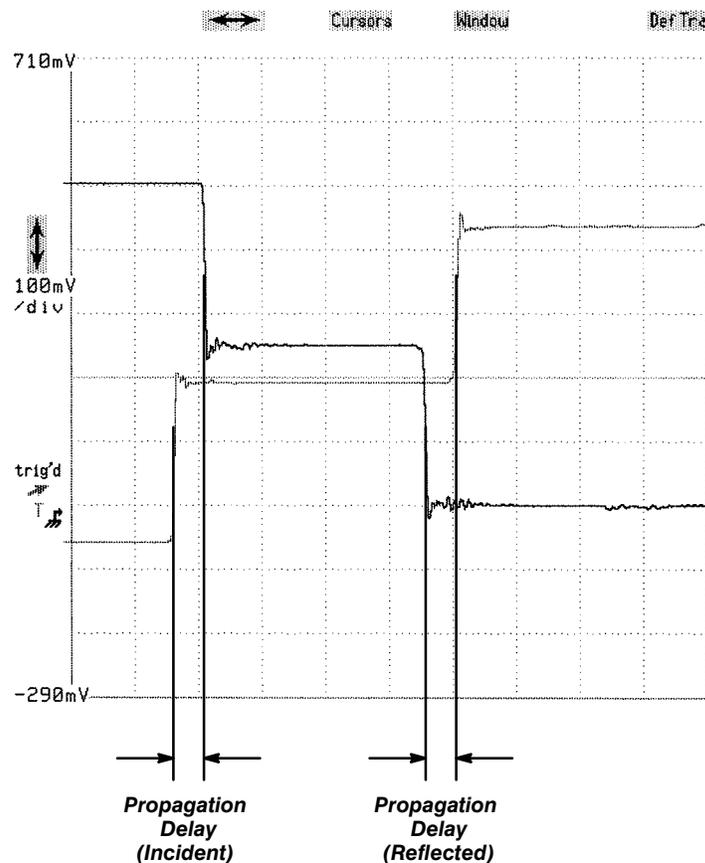

Figure 14: TDR Propagation Delay
- Step 6:** Touch **Diff TDR Preset** to turn both TDRs on, set **Trigger** to **Internal Clock**, and autoset the upper channel. The display should be similar to Figure 14.
When making differential or common mode TDR measurements, it is important that the two steps arrive at the same time at the reference plane (usually the connection point to the device under test). To check and adjust this condition, disconnect the transmission cables from the device under test *at the point where the cables connect to the device*. Then adjust the TDR step delay for the second channel so that the propagation delay between the incident edges is equal to the propagation delay between the reflected edges, as shown in Figure 14.